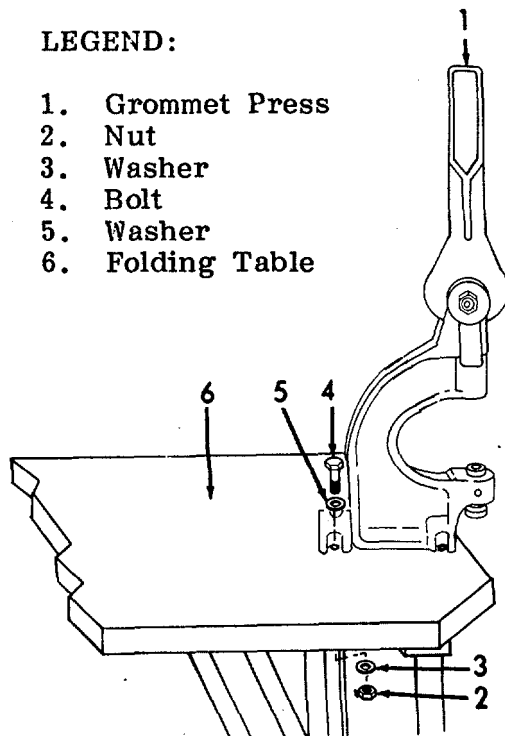

Figure 2-15. Grommet Press, Set-Up.
- (16) Adjust the belt so that it is not stretched but yet not so loose that the machine does not operate. Refer to para. 3-8 for belt adjustment procedure.
- (17) Install thread unwinder (8) and install to pins on rear of sewing machine.
h. Grommet Press (Refer to Figure 2-15).